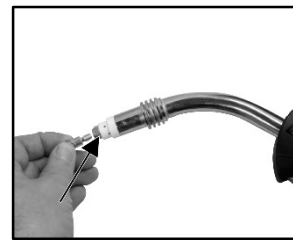

Fig. 15
9. Remove the gas nozzle and contact tip from the torch neck (Fig. 15)